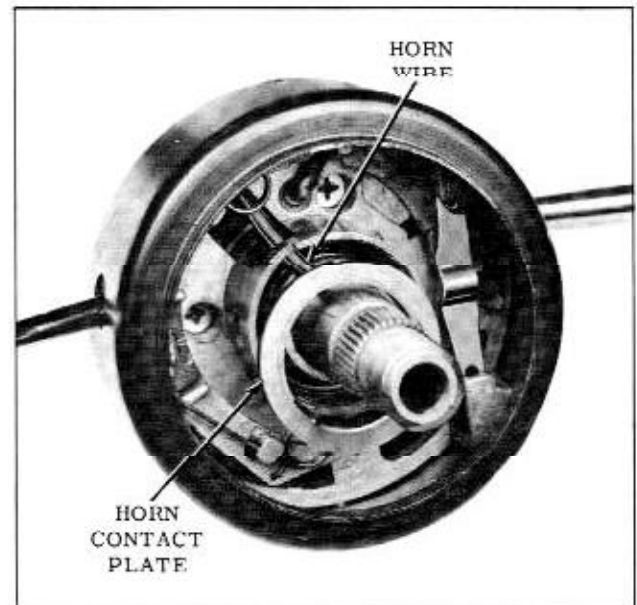

Fig. 4-9 Horn Contact Wire Installation
4. Install horn contact plate guiding the horn wire through the actuator housing and down through the mast jacket as shown in Fig. 4-9.